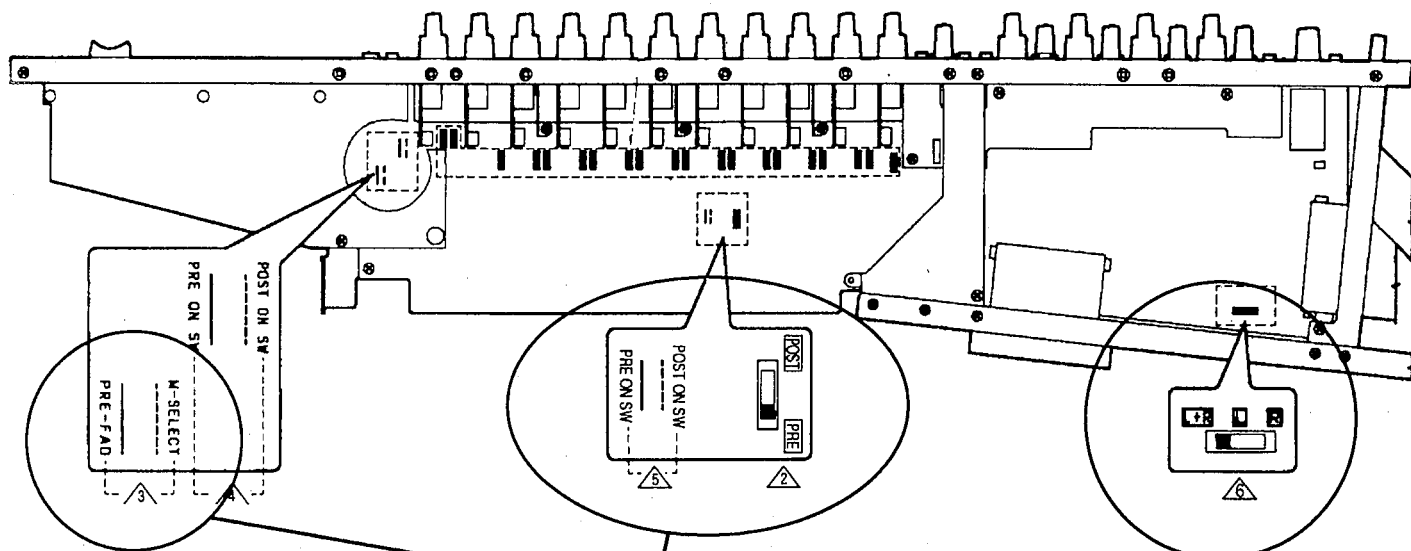
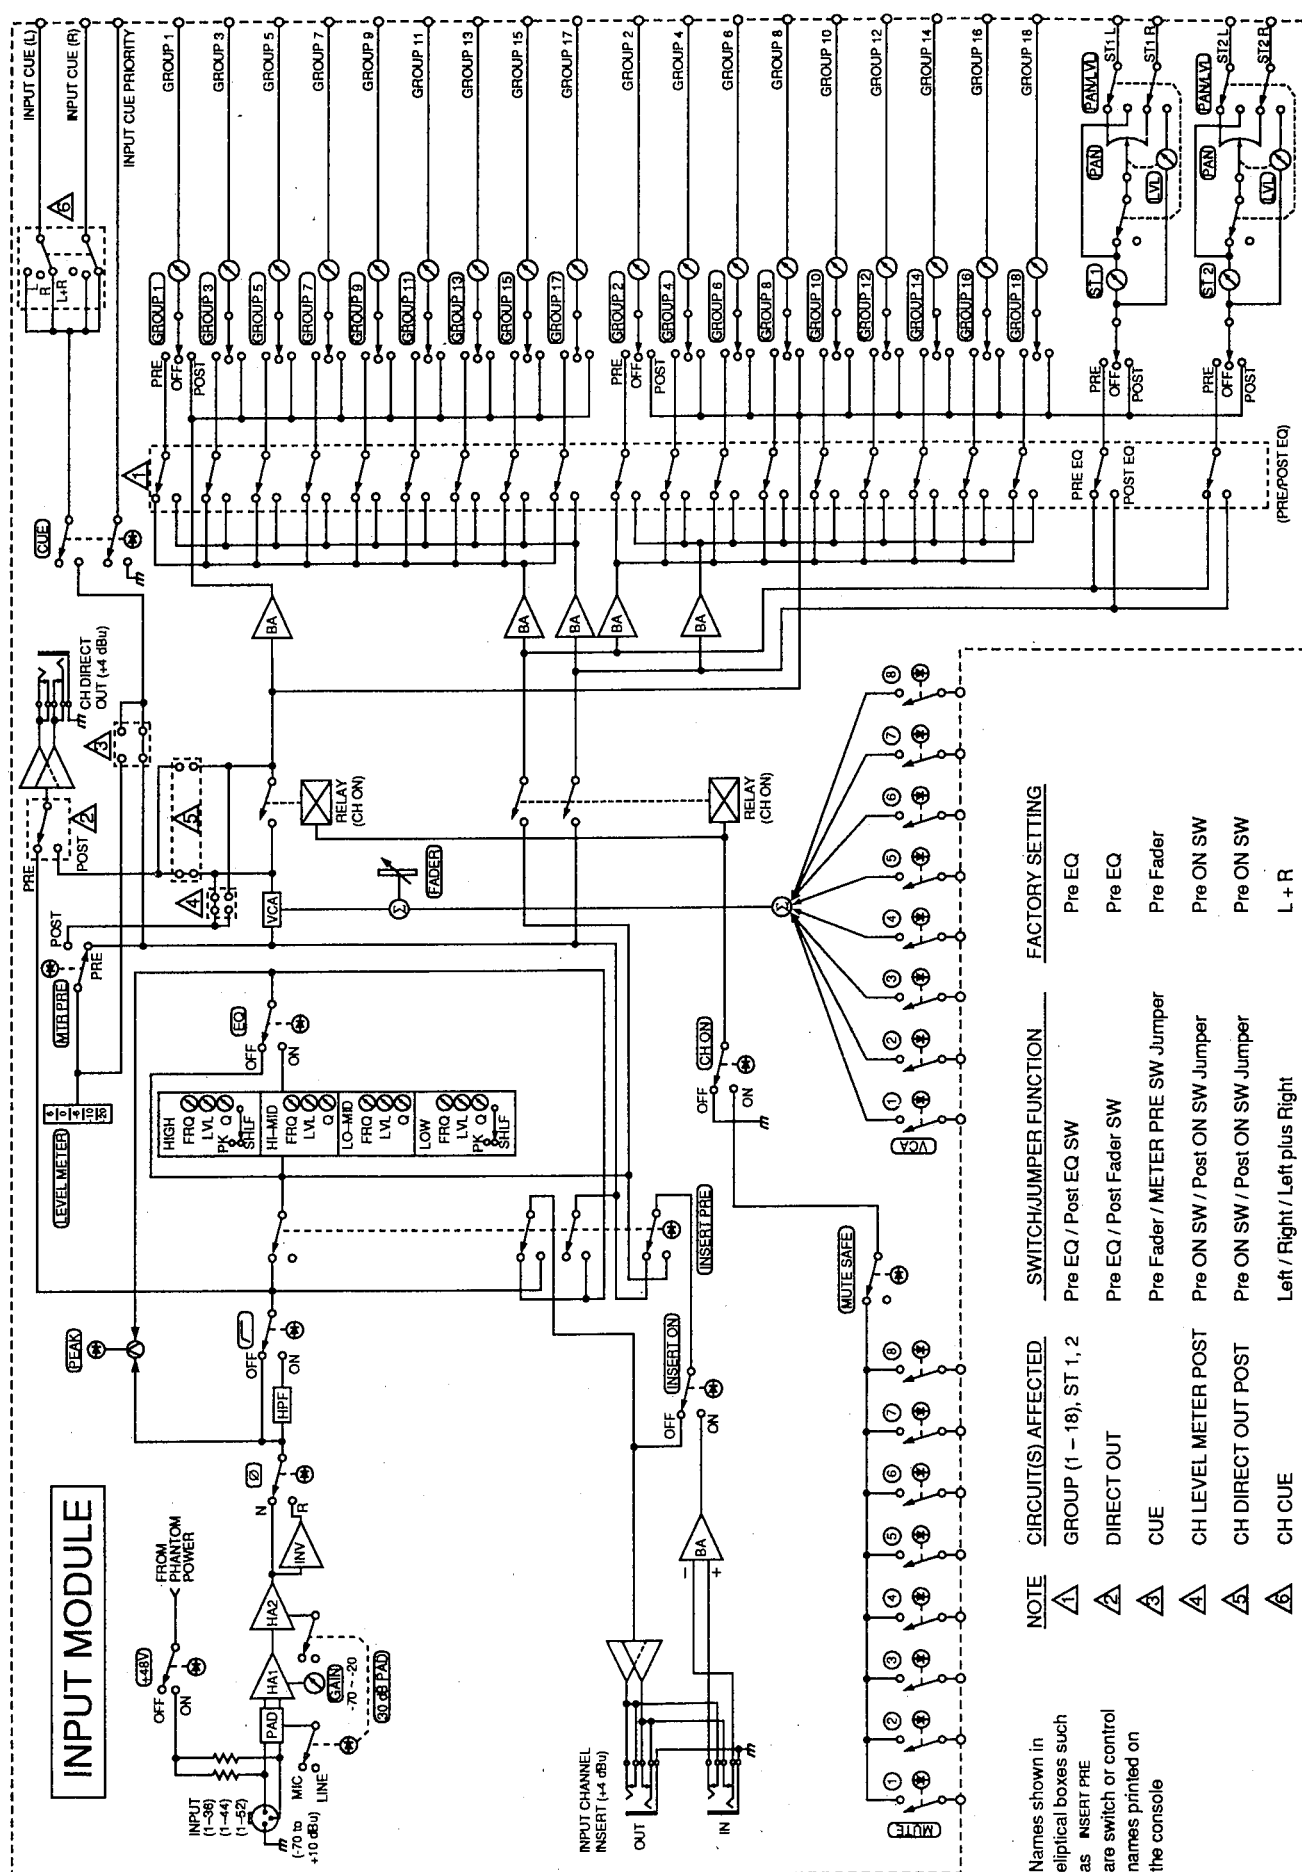

Figure 2b. Internal Jumper Positions for Cue Output Being Pre-Fader or Tracking the METER PRE Switch.
Figure 3. Input Module Block with Location of Switches and Jumpers
4. Lift up on the module's retaining screws (or you may also want to pull up gently on a control knob), and you will feel the two module connectors that join the connectors on the bottom of the console release. Then carefully lift the module out of the console. [Fig. 3]
[Fig. 3]
If you switch to Post-EQ, the "POST" direct out point comes factory set to a point ahead of the Channel ON switch, and is thus not affected by the Master Mute function. By changing an internal jumper, you can alter the Post-EQ/Fader Direct Out point to be Post-ON switch, too. The switch location is designated as item 5 (in the triangle) in the illustration below (Figure 2a). Also refer to figure 3 (next page) for the circuit location of this switch.
See Figure 2b above and Figure 3 (the block diagram). Look for note 3 in the triangles.
See Figure 2c above and Figure 3 (the block diagram). Look for note 6 in the triangles.
reducing filtering is desirable across all mixes derived from that input source. On the other hand, suppose that one or another Group mixes are used for pre-fader effects sends. In this case, it may be desirable to apply channel EQ to the sends. The POST position would provide EQ, but would also cause the channel fader to affect the send, which is not desirable. To solve the problem, the switch for that input's Group or Stereo mix assign can be reset so that the PRE position remains pre-fader, but is taken after the EQ. Refer to note 1 in the triangle in Figure 3 and 4a.
the level after the fader (actually after the channel VCA) but before the channel ON switch. Thus, turning off the channel outputs will not affect the channel meter. If you want the meter to shut off when you turn off the channel, you can reset an internal jumper, which moves the METER PRE switch's POST source to a point after the channel VCA. Refer to note 4 in the triangle in Figure 3 and 4b.